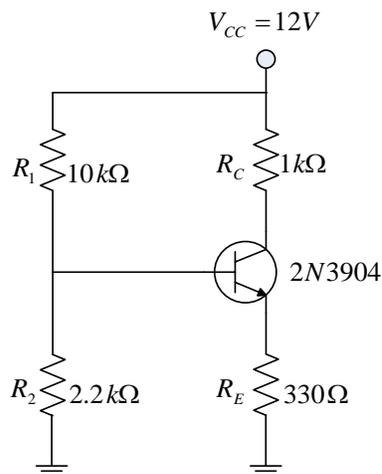

Fig 9.2 Circuit diagram
1. Connect the circuit components as shown in Fig 9.2. After connecting the circuit components apply V_{CC} and then set $V_{CC} = 12\text{ V}$.